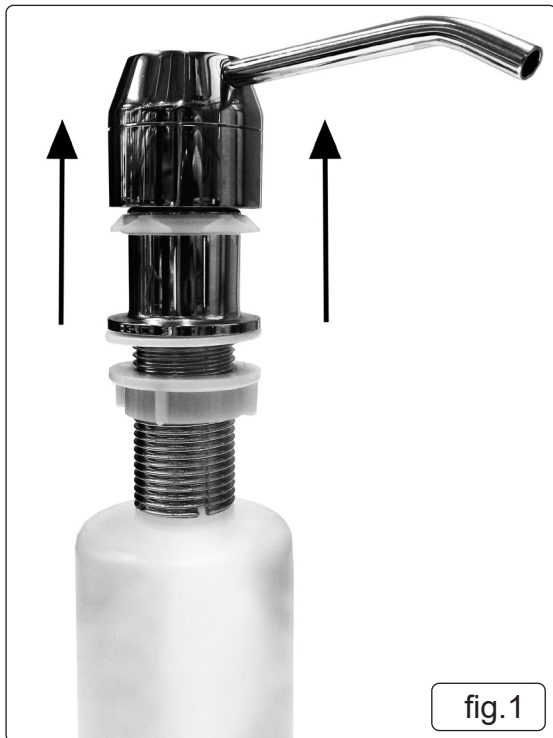

fig.1
- 5.2. To refill soap dispenser simply pull the plunger upwards (fig.1) and fill from there.